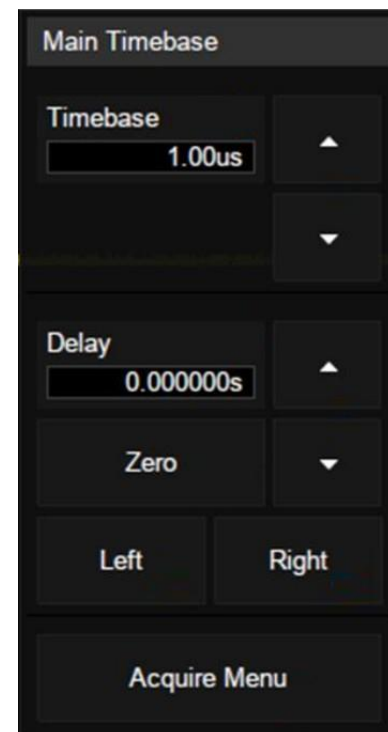

Figure 6.5 Main Timebase Menu
- Press the **Delay** box to set the horizontal scale by the virtual keypad. (Figure 6.5)